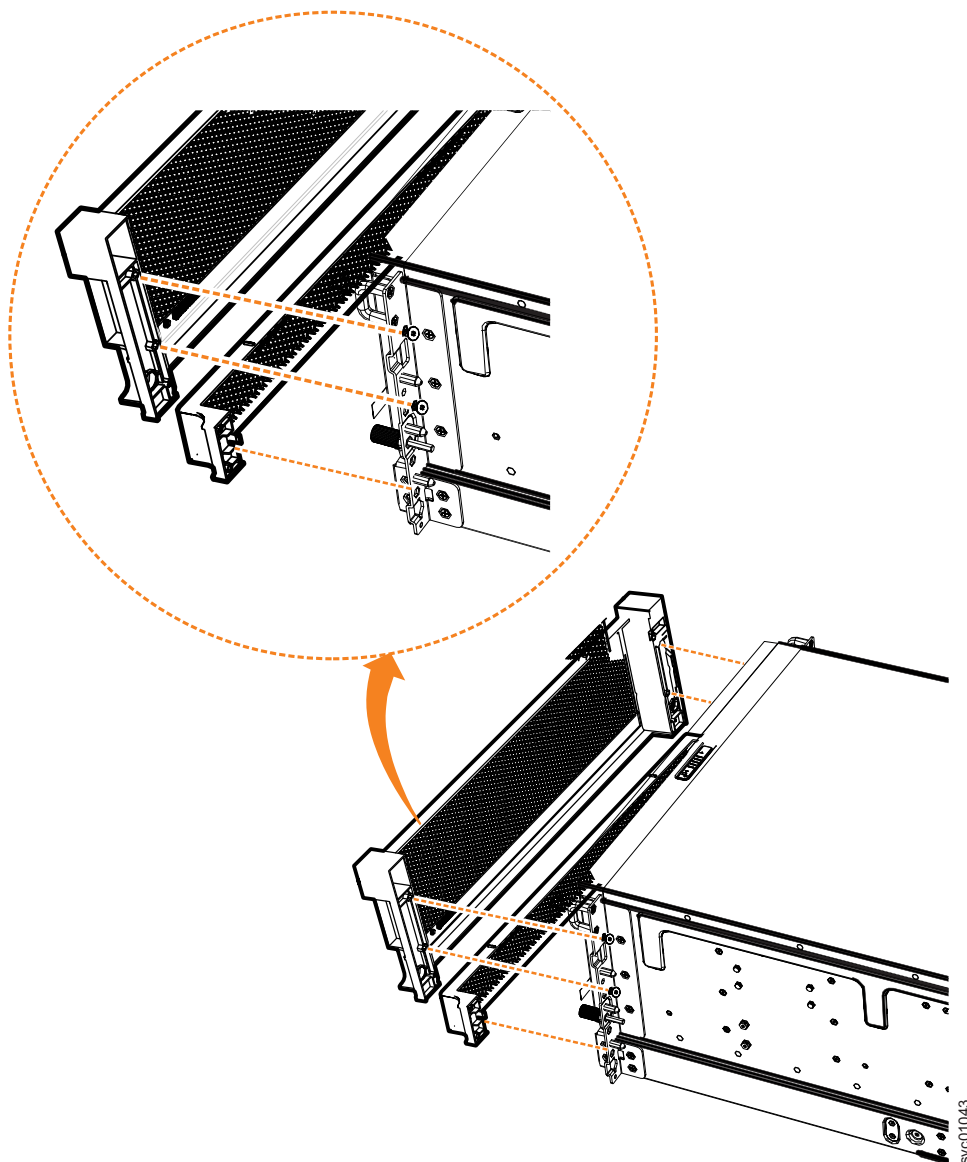

Figure 76. Remove fascia components from the expansion enclosure
2. Remove the front fascia by removing the two screws that attach the fascia to the flange on each side of the chassis, as shown in Figure 76 on page 79.
3. Gently pull on each side of the PSU fascia to remove it from the chassis, as shown in Figure 76. The PSU fascia disengages from the slot and pin that connect it to each side of the chassis.